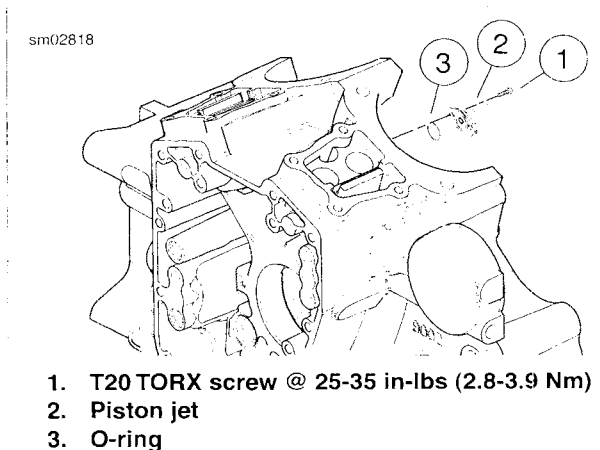

Figure 3-144. Piston Jets
1. See Figure 3-144. Remove two T20 TORX screws (1) to free piston jet (2) from crankcase.
2. Remove o-ring (3) from groove in mounting flange of jet. Discard o-ring.
1. See Figure 3-144. Apply a very thin film of clean H-D 20W50 engine oil to **new** o-ring (3) for piston jet. Install **new** o-ring in groove of jet mounting flange.
2. With jet pointed upward, start two T20 TORX screws (1) to secure piston jet (2) to crankcase. Tighten to 25-35 **in-lbs** (2.8-3.9 Nm).